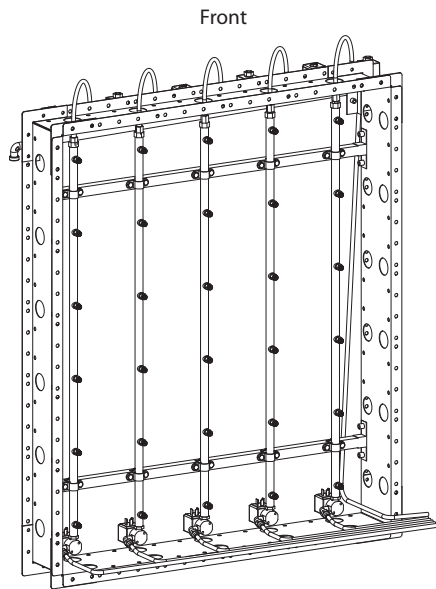

Fig. 3.b
4. the positions of the nozzles and the plugs on each manifold (Fig. 3.b).